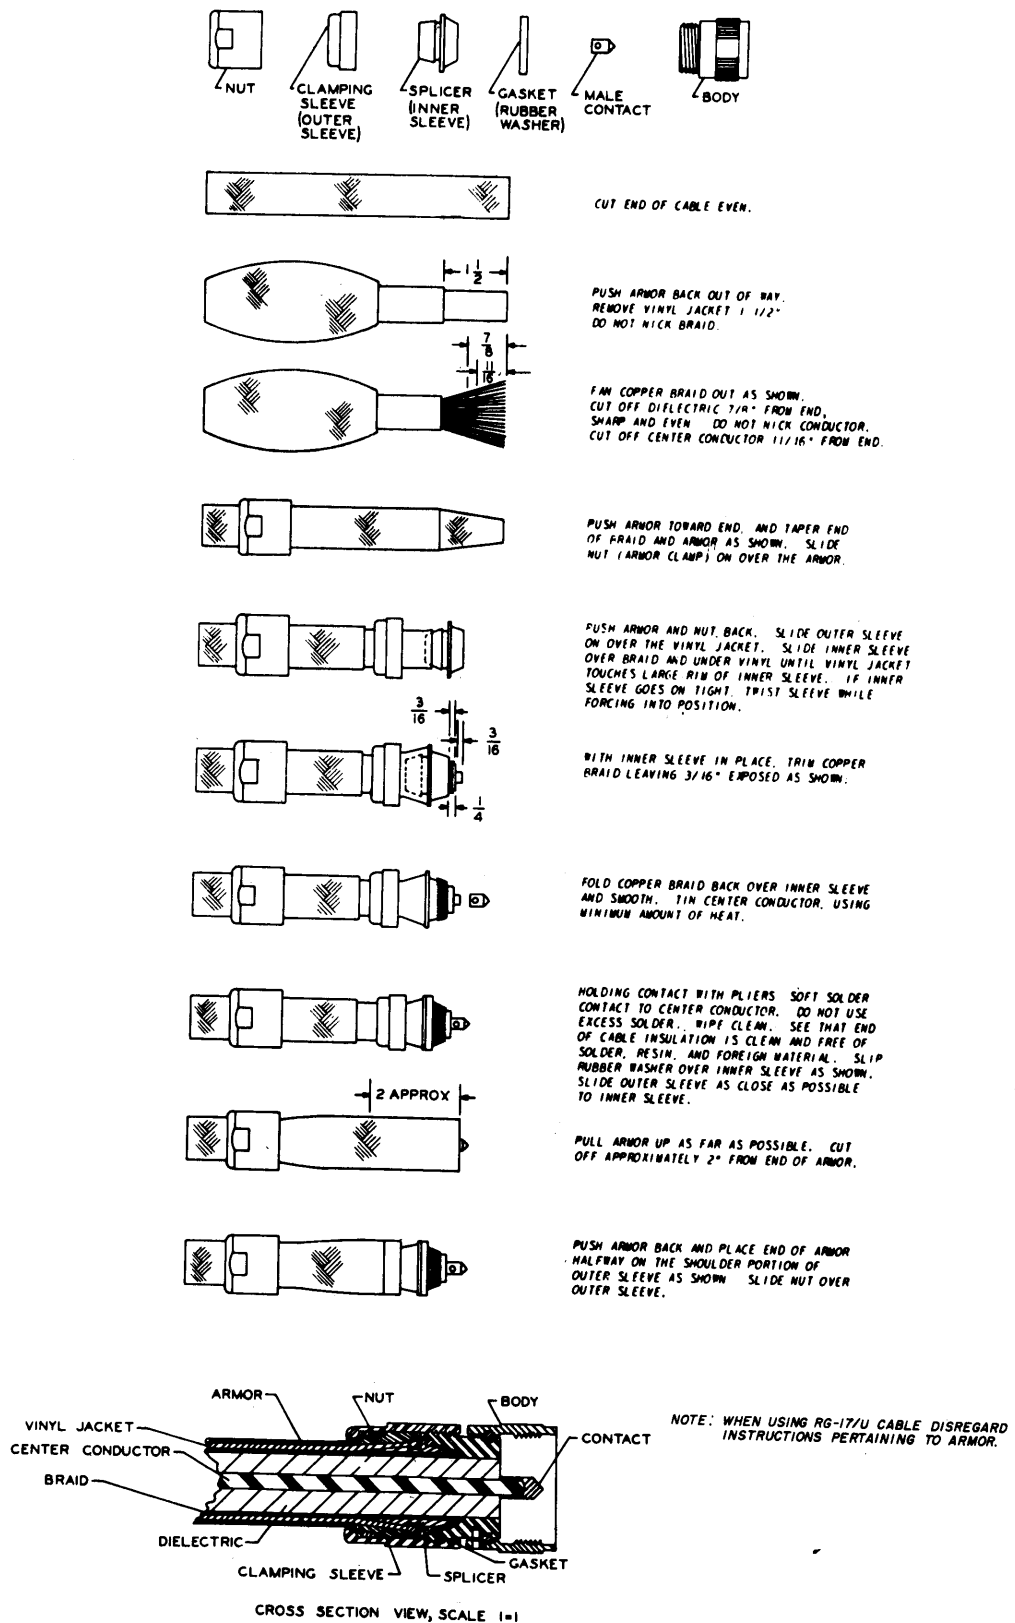

Figure 3-1. Assembly of R-F Output Connector for Coaxial Feedline
b. ASSEMBLY OF TYPE 49551 PLUG CONNECTOR TO RG-17/U CABLE.—Assembly instructions for Type 49551 plug connectors and the RG-17/U cable used with them are given in figure 3-1.